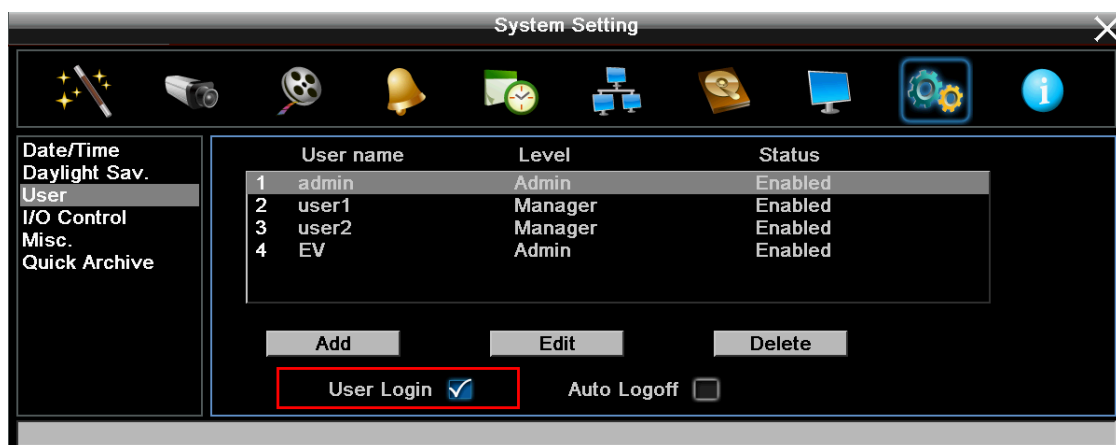

Figure 4-11
1. Ensure the User Login box is **Unchecked** (Figure 4-11).